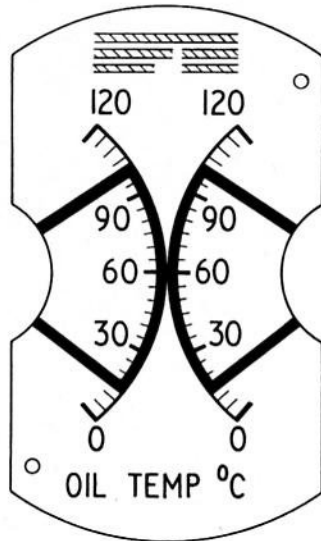

Fig. 1. Indicator, Type S127.5.93
1. The dual temperature indicator, Type S127.5.93 (fig. 1) is calibrated in deg. C from 0 to 120 on each of the two scales. The deflection of each pointer is controlled by the variation of resistance of an externally connected nickel law resistance thermometer element. The two indicator movements are each designed as a ratiometer.